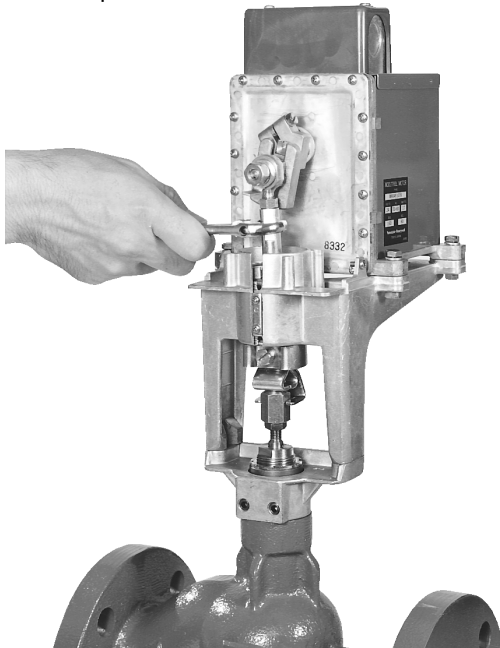
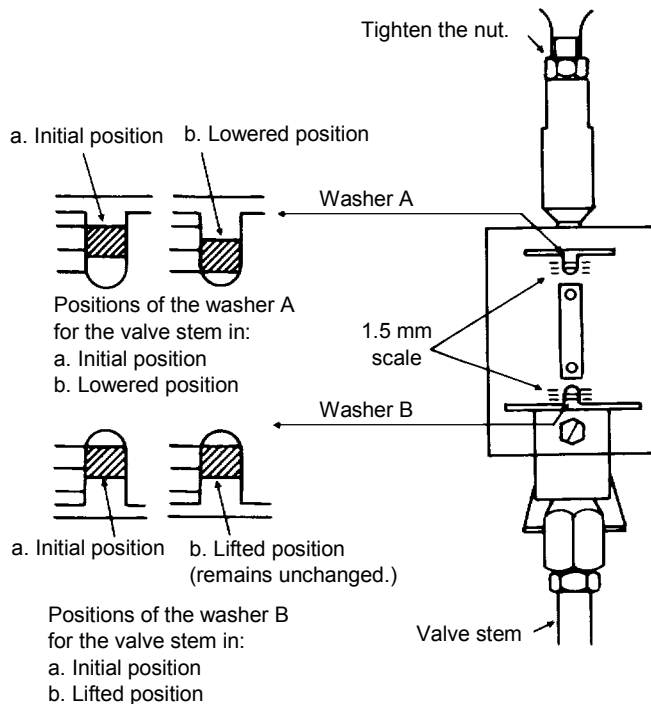

Figure 7. Adjusting the strain relief
Figure 8. Adjusting the strain relief for two-way valve
- 8) To adjust strain relief, turn the adjustment shaft using a wrench as shown in Fig. 7, so that the positions of the washers shift a half or one scale. (See Figs. 8 and 9.) Carefully adjust the shaft. Excessively moving of washers may damage the strain relief mechanism and other components.